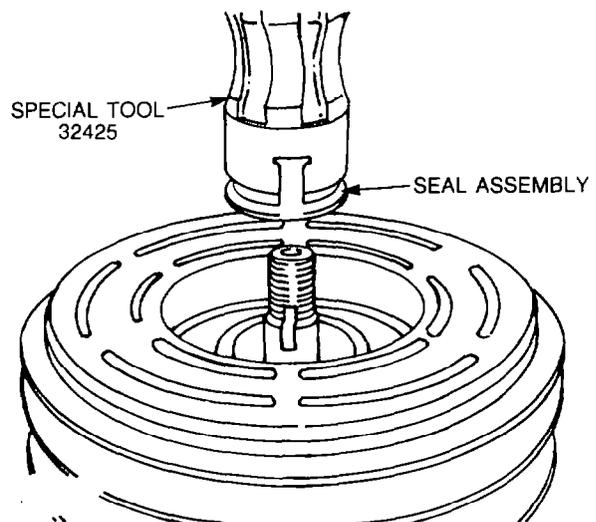

Figure 29 — Shaft Seal — Removal
- m. Insert the seal remover and installer (special tool 32425) against the seal assembly, then press down against the seal spring and twist the tool until it engages the slots in the seal cage, with a sharp upward movement of the tool, remove and discard the seal (see Fig. 29).